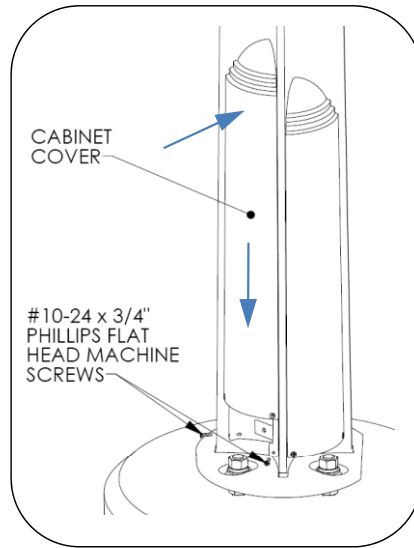

Fig.8 – Install cabinet cover
3. Install two screws as noted in Fig. 8.